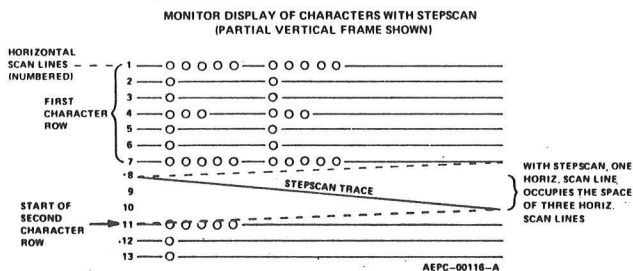

Figure 17. Displaying Characters on a Monitor with StepScan
STEPSCAN FUNCTION (Reference Figure 17)
StepScan is useful when it is desired to display more rows of data characters than the existing "alphanumeric video" signal format will permit. A typical display consists of 240 horizontal scan lines which form character rows of data. Between each character row is a desired amount of blank spacing which is made up of horizontal scan lines without video information. By accelerating the vertical deflection between character rows, one (1) horizontal scan line could provide the spacing between rows that would normally be occupies by three (3) horizontal scan lines (see Figure 17). This would reduce the number of blank horizontal scan lines between character rows from three (3) down to one (1). However, the physical spacing between the character rows would not change. Since two (2) horizontal lines are saved between each row, a 24 row format will accumulate 48 unused scan lines. These 48 extra scan lines will reside at the bottom of the display since the CRT still scans a total of 240 horizontal lines. Therefore, the 48 additional lines at the bottom can also be used to display data. This means an additional six (6) rows of characters can be displayed. (For example, 7 lines for char. height plus 1 line for spacing = 8 lines per char. block. 48 unused lines divided by 8 char. block lines = 6 additional rows.)